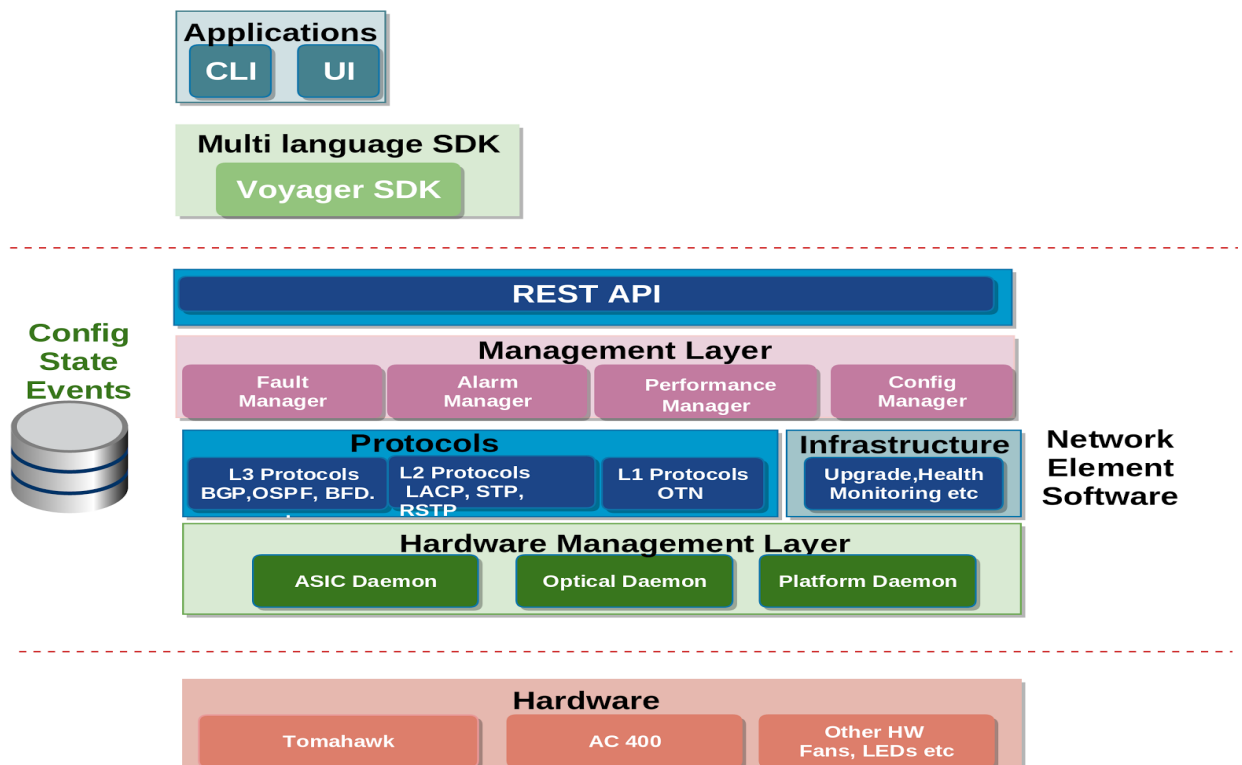

Figure 1: Diagram showing Flexswitch microservices
- Figure 1: Diagram showing Flexswitch microservices
The diagram in Figure 1 shows a high level layered representation of components that constitute FlexSwitch's microservices. At the bottom of the network element software stack are the hardware/platform management daemons. These daemons allow configuration, management and monitoring of underlying hardware. They also provide service to higher layer software that allows provision of the hardware. The middle layer of the stack is comprised of the protocol and infrastructure daemons, that provide core switching and routing functionality. Above the protocol/infrastructure layer resides the management layer that allows configuration of various services, and also performs monitoring and reports the health of the system via events, faults and alarms. The configuration management daemon i.e 'configd' exposes REST APIs for the end user/application to manage the system.